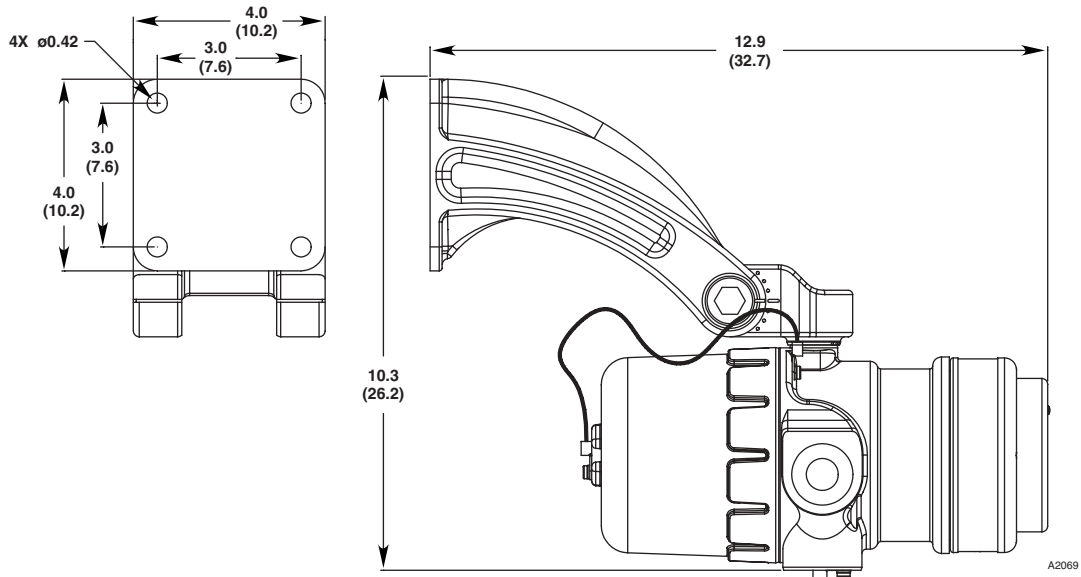

Figure 3—Q9033B Mounting Bracket Dimensions in Inches (cm)
1. Install the swivel mounting bracket assembly on the wall. The installation surface should be free of vibration and suitable to receive 1/4 inch (M6) screws with a length of at least 1 inch (25 mm). Refer to Figure 3 for dimensions.